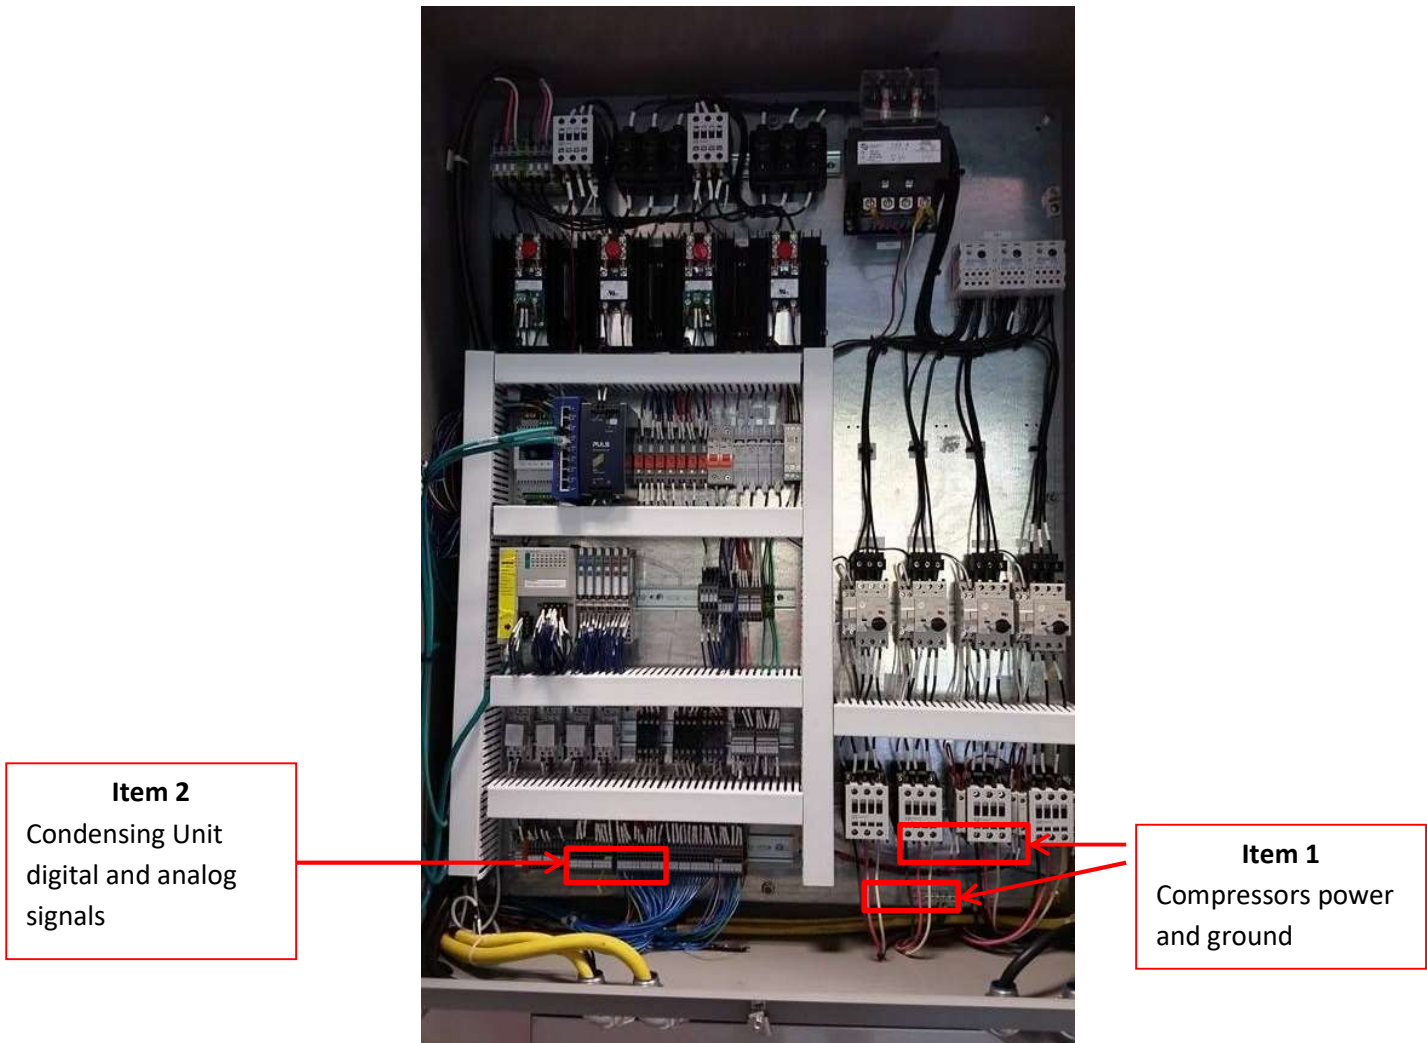

Figure 5 - Main Control Panel
6. Inside the main electrical panel, remove the cables for the compressors power located on the bottom right corner. Remove only the terminations on the bottom of the contactors which correspond to the cable terminations coming from the bottom section (Figure 5, Item 1). Remove also the ground cables.
7. Remove the cables for the digital and analog signals coming from the bottom section (Figure 5, Item 2). These are 2 cables with termination on the 100's terminals (101 to 125). The digital signals are located on the top tier (101 to 125) and the analog signals are located on the bottom tier (101 to 118).